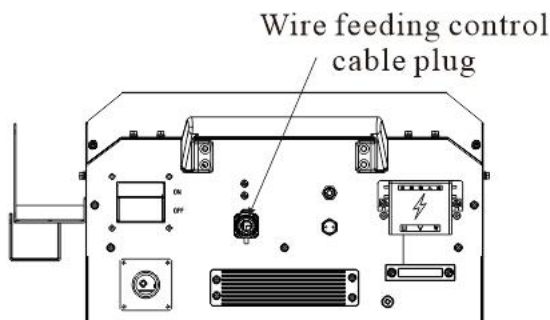

Figure 2-7 Diagram of the power connector of laser wire feeder
2. Connect the input power cable at the backside of the wire feeder to the power connector of the laser welding machine, and check whether it is tightened, as shown in Figure 2-7.